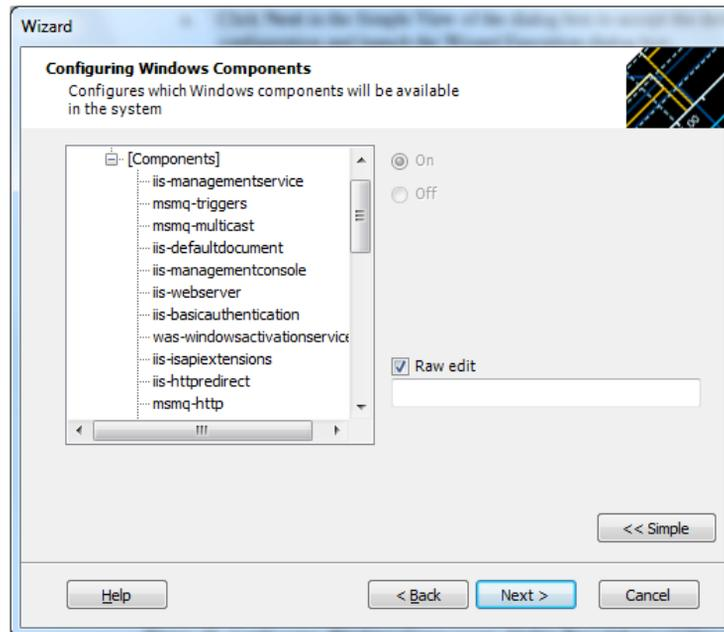

Figure 37. Configuring Windows Components Dialog Box (Advanced View)
- b. Click **Advanced** to switch to the Advanced View (Figure 37), where the components that will be configured are listed. Click **Next** after viewing the components list.